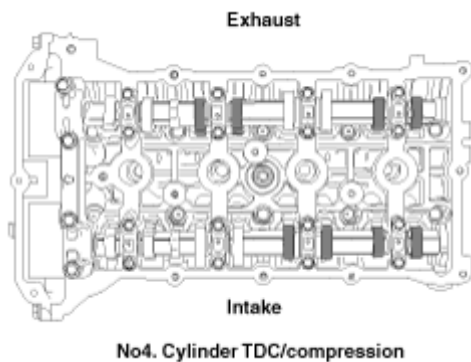

Fig. 6: Inspecting Valve Clearance (2 Of 2)
- C. Check only valves indicated as shown in **Fig. 6**. [NO. 4 cylinder: TDC/compression]. Measure the valve clearance.